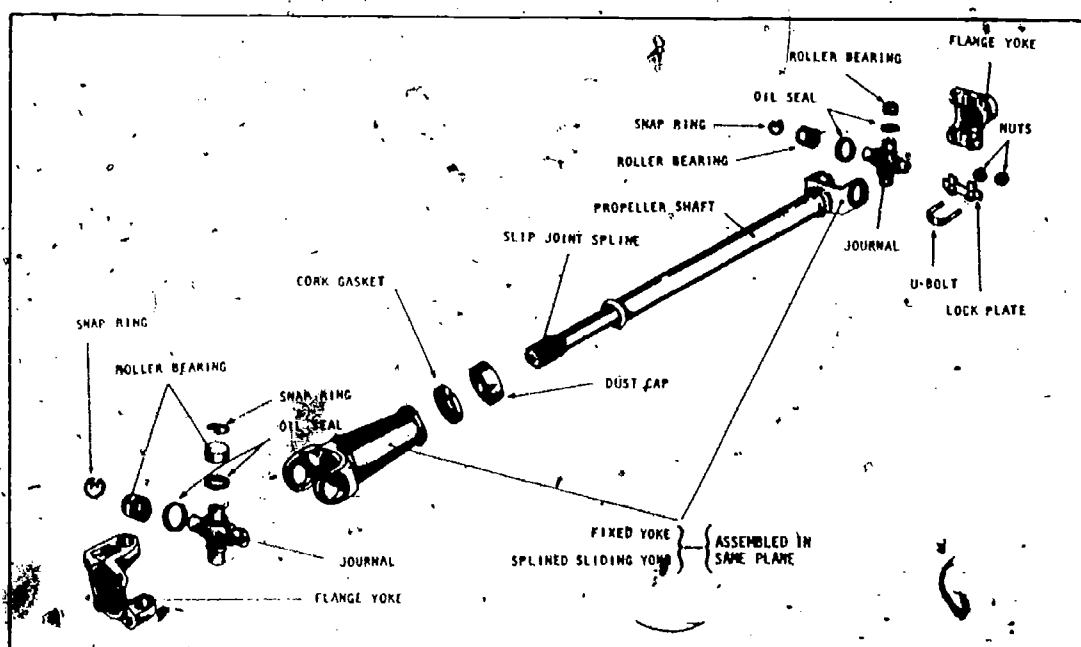

Fig 3-30. Propeller shaft disassembled.
- (1) Because flexing of the springs, component mounting, or operation cause the component housing to move forward and backward, a slip joint is installed. This allows the propeller shaft to lengthen and shorten as required by operating conditions.
- (2) A slip joint consists of a male and a female spline, a grease seal, and a lubrication fitting. The male spline is an integral part of the propeller shaft (fig 3-30) and the female portion is fixed to the universal joint directly behind the driving component. As the component housing moves forward and backward, the slip joint gives freedom of movement in a horizontal direction and yet is capable of transmitting rotary motion.